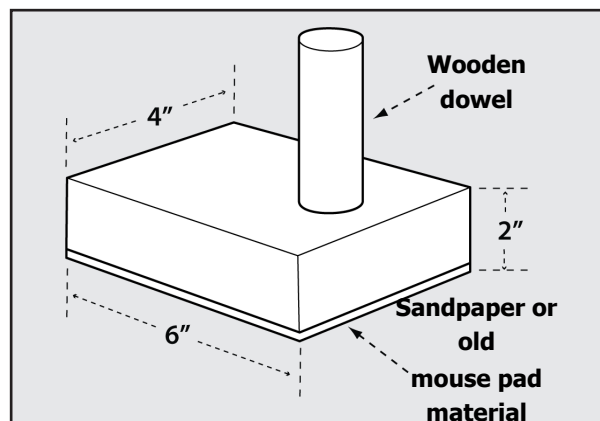

FIGURE 35
**To make a crosscut, refer to Figure 35 and follow this process:**
See Figure 35.